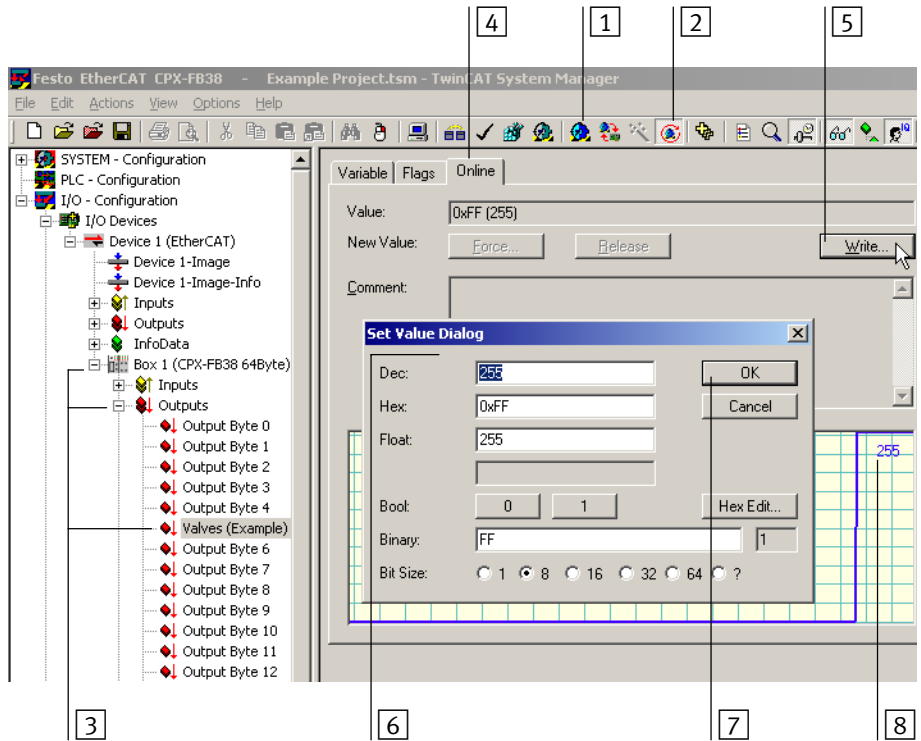

Fig. 2/6: Functional test in the frame work of the Free Run State
Click the corresponding symbol (see [1] in Fig. 2/6) or press [Shift] + [F4] to switch over to the Config Mode.
In this case, the Free Run Symbol ([2] in Fig. 2/6) is displayed in grey colour, e.g. when the EtherCAT system is in state “Stopped”.
Click the corresponding symbol (see adjoining figure or [2] in Fig. 2/6) or press [Ctrl] + [F5] to switch over to the Free Run State.
3. Select the input or output to be checked (see **3** in Fig. 2/6):